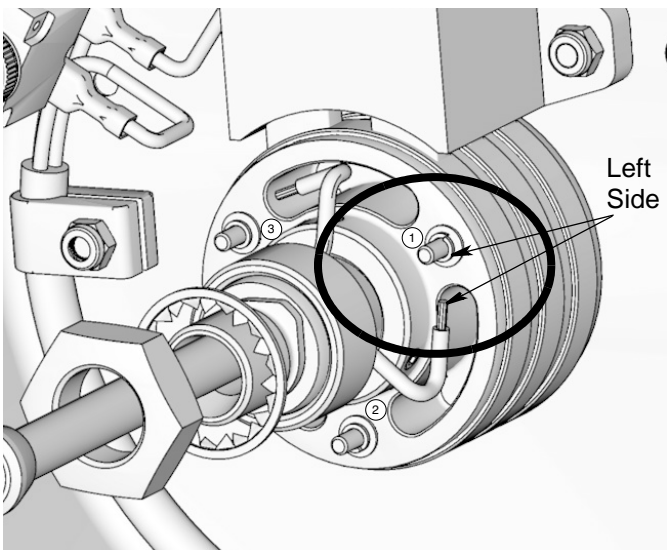

FIG. 17
2. Orient cord so wires route to appropriate holes and to the left side of the desired mounting stud as shown in FIG. 17 and Table 3.